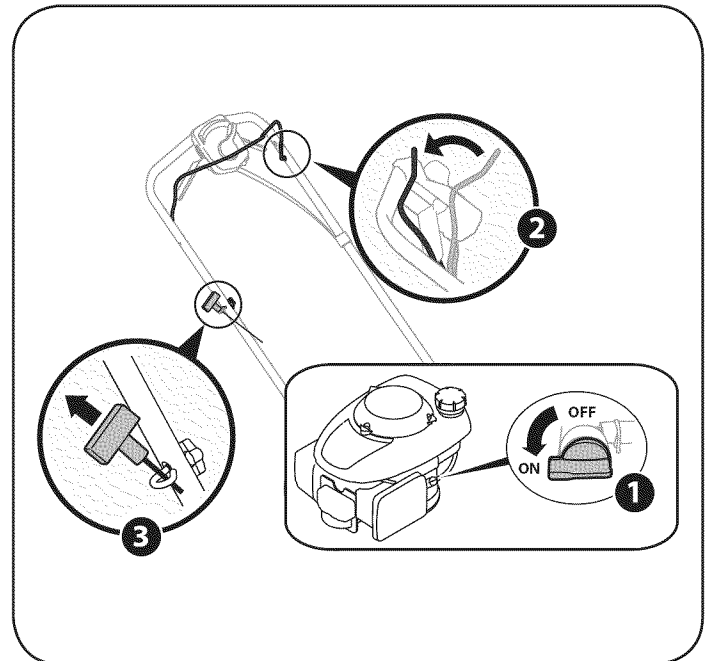

Figure 15
1. Place the fuel valve lever found on the left side of the engine into the ON (OPEN) position. See Figure 15 inset.
3. While holding these two handles together firmly, grasp the recoil starter handle and pull rope out with a rapid, continuous, full arm stroke. See Figure 15. Keeping a firm grip on the starter handle, let the rope rewind slowly. Repeat until engine cranks. Let the rope rewind each time slowly.